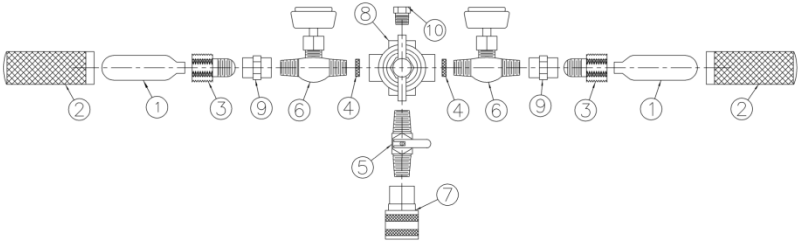
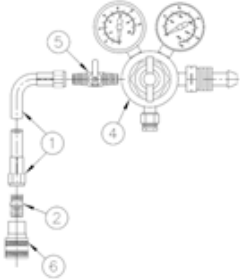

Fig. 2
Fig. 3
A. CO₂ System (Refer to Fig. 2)
B. Nitrogen System (Refer to Fig. 3)
1. If the carbon dioxide pressurizing system is being used (Refer to Fig.2), make sure both of the shut off valves [6] on the manifold are closed, and that the regulator [8] adjustment Tee screw is backed off, (turned counterclockwise) until it turns freely. Insert one CO₂ cartridge [1] into each barrel [2] on the regulator assembly and tighten sufficiently to puncture the cartridges.
2. If the Nitrogen pressurizing system is being used (Refer to Fig. 3). Make sure the regulator assembly [4] is properly connected to the Nitrogen cylinder [3] and that the regulator adjustment Tee screw is backed off, (turned counterclockwise) until it turns freely.
1. If the CO₂ pressure manifold is being used (Fig.2), open both shut off valves [6] slowly, then adjust the pressure regulator [8] by turning the Tee screw clockwise until the pressure on the reservoir reaches 20 psig (139 kPa). This pressure should be maintained during filtration. If the pressure exceeds 20 psig (139 kPa), momentarily open the bleeder valve until the pressure drops to 20 psig (139 kPa). Readjust the pressure regulator.
2. If the Nitrogen pressure manifold is being used (Fig. 3), connect hose [1] to the bleed valve [5] on one end and onto the adapters [2] and [6] on the other end. Connect quick coupler [6] onto the male quick coupler fitting on the top of the cylinder. Open the cylinder valve slowly until cylinder pressure is observed on the high pressure (Right hand) gauge. Adjust the pressure regulator by turning the Tee screw clockwise until the pressure on the low pressure gauge (Left hand gauge) and on the reservoir gauge reaches 20 psig (139 kPa). This pressure should be maintained during filtration. If the pressure exceeds 20 psig (139 kPa), momentarily open the bleeder valve on the Nitrogen manifold until the pressure drops to 20 psig (139 kPa). Readjust the pressure regulator.
2. If the CO₂ pressurization system is being used, close the two needle valves [6, Fig. 2]. This will retain the CO₂ charge left in the Cartridges for the next test.
3. Back off (turn counterclockwise until free) the adjustment screw on the CO₂ regulator [8, Fig. 2] or for the Nitrogen regulator, [4, Fig. 3].
5. Open the bleeder valve [5, Fig. 2 or Fig.3] on the pressurization manifold being used or the bleeder valve on the air system, (if used) and bleed off the pressure in the reservoir.
6. Disconnect the quick disconnect [7, Fig. 2 or 6, Fig.3], or the connection to the air system (if used), then remove the pressurizing assembly.